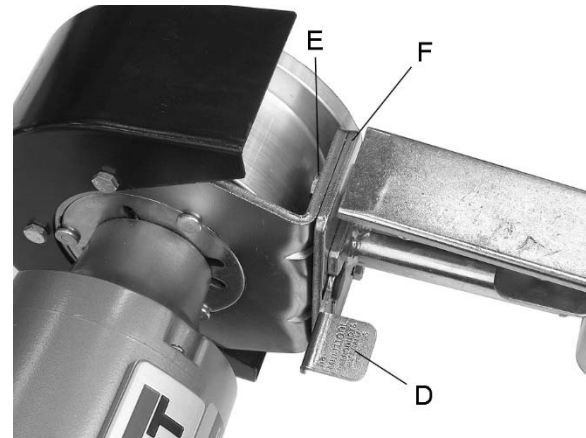

Figure 8-2: belt tracking
Rotate belt by hand to check tracking. If belt shifts to one side or the other, move tracking lever (D, Figure 8-2) while rotating belt until belt completely covers contact wheel and stays centered. Move lever (D) down for left adjustment, up for right adjustment. Turn on grinder to verify setting at operational speed.
- If belt wanders away from grinder, loosen top bolt (E, Figure 8-2) and tap top of cam plate (F) away from grinder.
- If belt wanders toward grinder, loosen top bolt (E) and tap top of cam plate (F) toward grinder.
- Retighten bolt, and use lever (D) for final tracking.